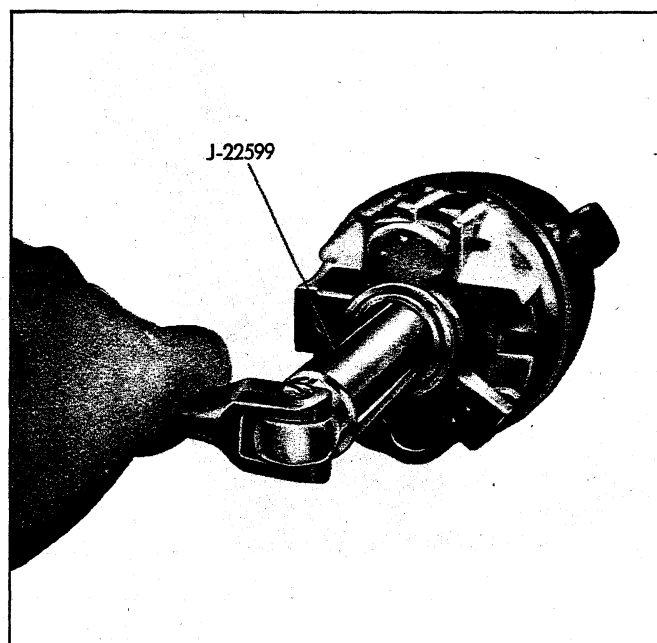

Fig. 39—Removing Steering Shaft Bearing Lock Nut Using Lock Nut Wrench J-22599
11. Remove steering shaft bearing lock nut using lock nut wrench Tool J-22599 (fig. 39). Remove inner race seat and inner race.
24. Install inner race, inner race seat, and bearing locknut on end of steering shaft, using locknut wrench Tool J-22599 (fig. 39).